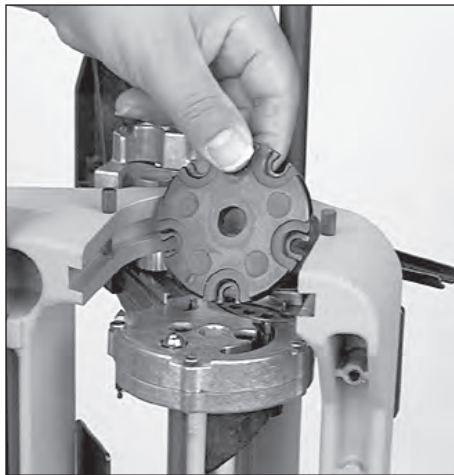

FIG 160
3. Swing the ejector wire out of the way and remove the shellplate. Be sure that the index ball and index pawl remain in place **FIG 160**.